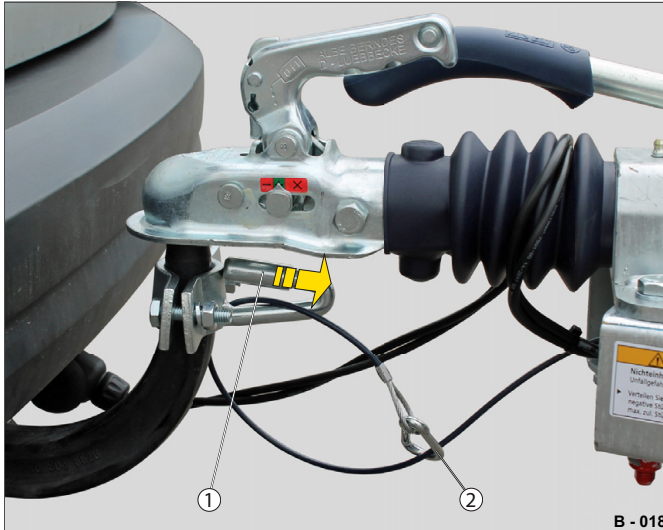

Fig. 17 Attaching safety cable
- Pull on the locking mechanism (Fig. 17 /1) of the clamping device while at the same time forming a loop with the safety cable (Fig. 17 /2).